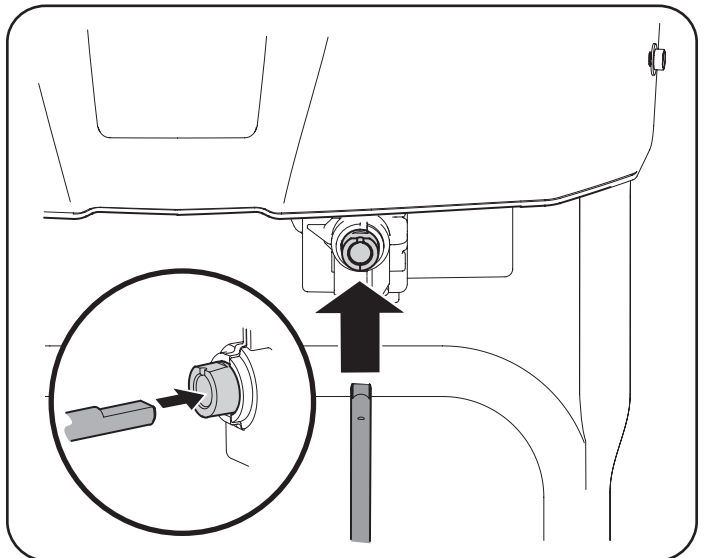

Figure 38
5. Insert the other end of the chute control rod into the input shaft below the handle panel. Make sure to line up the flat end of the rod and the flat end of the input shaft. You may need to rotate the rod around until these two surfaces line up. See Figure 38.